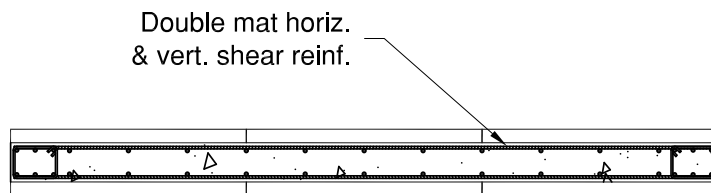

FIGURE 4: PLAN VIEW
2. Table is to be read in conjunction w/ **Figure 4**.
4. Blank regions require no stirrups. Shaded regions require stirrups. For stirrup information refer to **Figure 4**.
2. Provide double mat of reinforcement for 12" LOGIX wall. See Figure 4.
- Where more than one bar is shown use double mat for flexural reinforcement. See Figure 3 (or Figure 4 for 12" LOGIX).